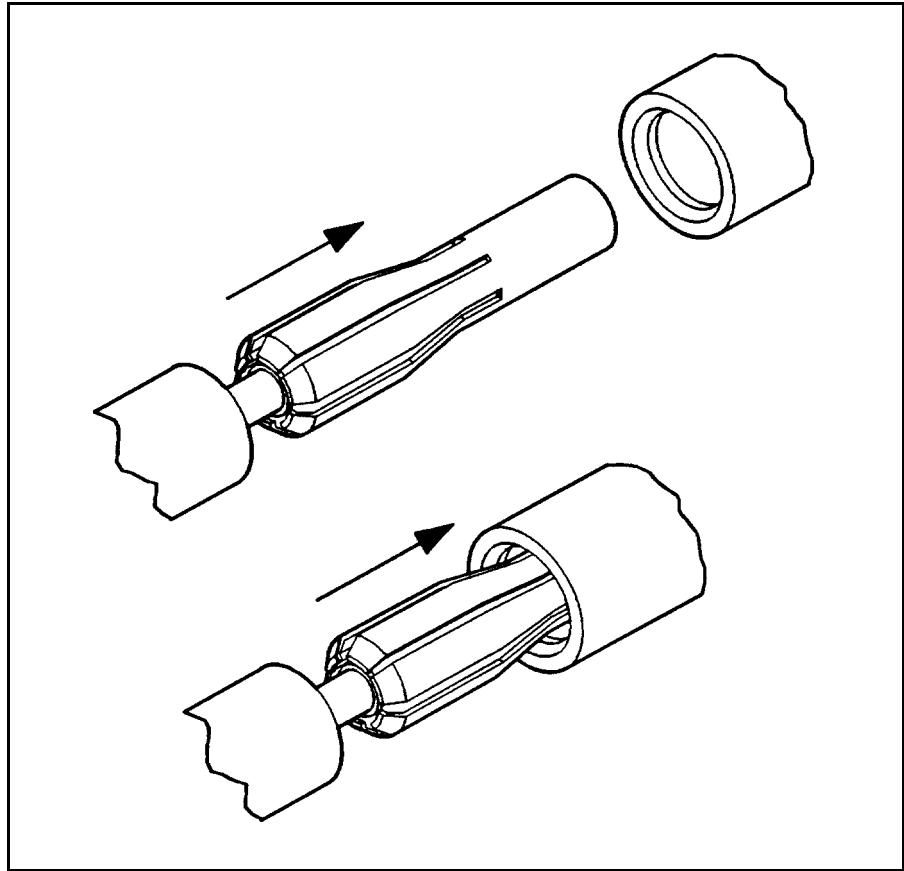

Figure 2-14. Installing a New Inner Contact
3. Let go of the contact with tweezers and slowly insert the contact into the center conductor (see Figure 2-14). As you install the contact, its fingers compress and the force required to insert it first increases and then decreases. When the insertion force begins to decrease, do not push too hard or you may damage the new inner contact or center conductor.